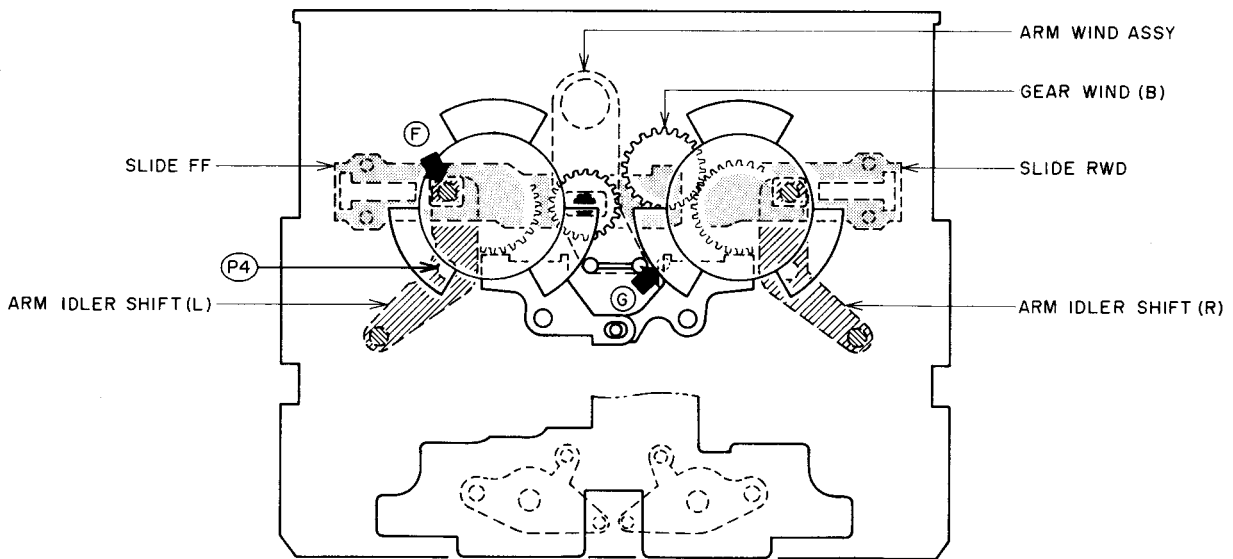
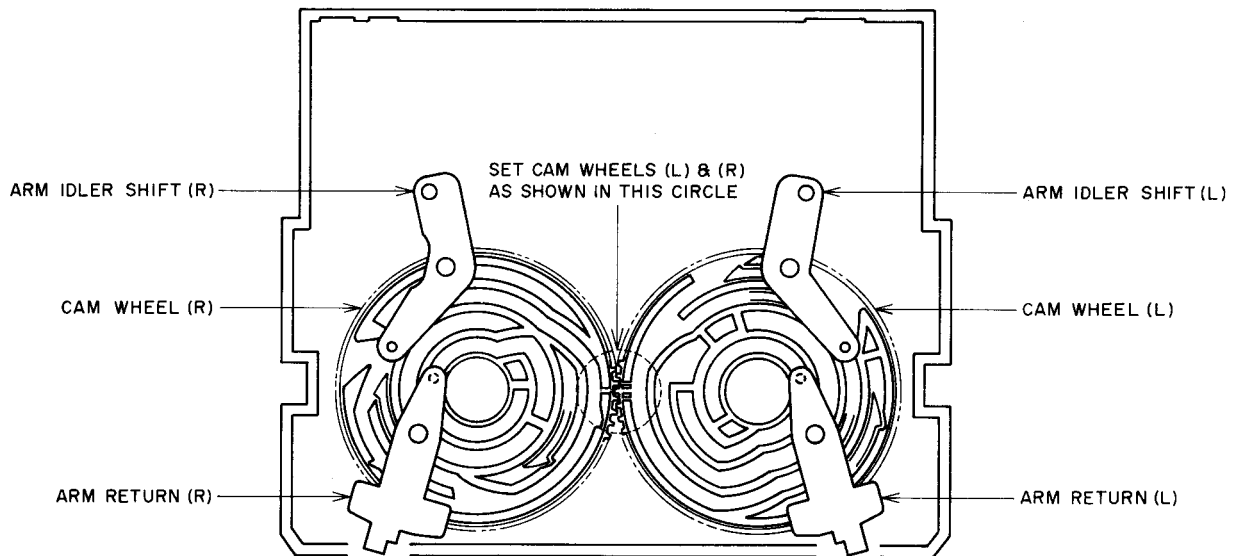

Fig. 6-4 The Mechanism for FF/RWD (includes IPLS & Intro Scan)
Fig. 6-6 The Location of Arm Idler Shift & Arm Return (Inside View)
3) FF mode (Refer to Fig. 6-4)
- a) Cam Wheels (L) & (R) turn counter-clockwise (L) and clockwise (R) for 43 counts and turn the other way (clockwise (L), counter-clockwise (R)) until the count is reduced to 25.
- b) In FF & RWD modes, only Arm Idler Shift (L), (R) are involved.
4) RWD mode (Refer to Fig. 6-4)
- a) Cam Wheels (L) & (R) turn clockwise (L) and counter-clockwise (R) for the same counts as FF mode.
- b) The mechanical operations in RWD mode can be obtained from the description of the FF mode in item 1) by interchanging left (L) and right (R).
- b) The mechanical operations in this mode are the same as in FF mode, except that the Arm Head Shift (L) pushes up the Chassis Head Part which raises the Head Block to the FF Search mode position.
- b) The mechanical operations in this mode are the same as in REW mode, except that the Arm Head Shift (R) pushes up the Chassis Head Part which raises the Head Block to the RWD Search mode position.
6-1-10. How to install Cam Wheels (L) and (R). (Refer to Fig. 6-6)
Set Cam Wheels (L) and (R) as indicated in Fig. 6-6.